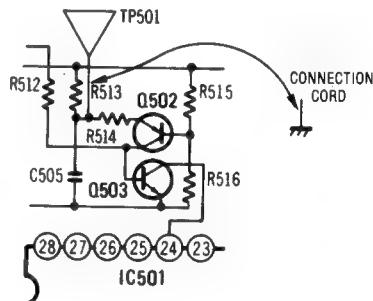

Fig. 23
2. As shown in fig. 23, connect a wire between TP501 and ground terminal.